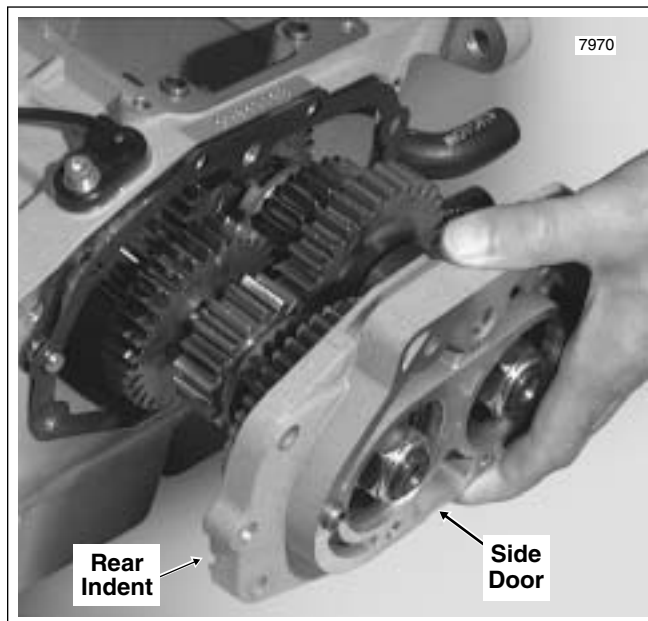

Figure 7-27. Remove Transmission Side Door
7. See Figure 7-27. Remove the six socket head screws (bottom four with flat washers) to free both the side door and transmission exhaust bracket from the transmission case. Pull the side door, mainshaft and countershaft from the transmission case as a single assembly. Remove and discard the door gasket.
DO NOT USE A HAMMER TO REMOVE THE SIDE DOOR. If the side door sticks or binds on the locating dowels, gently pry open using the indents at each side of the door. See Figure 7-27. Exercise caution to avoid damaging paint.